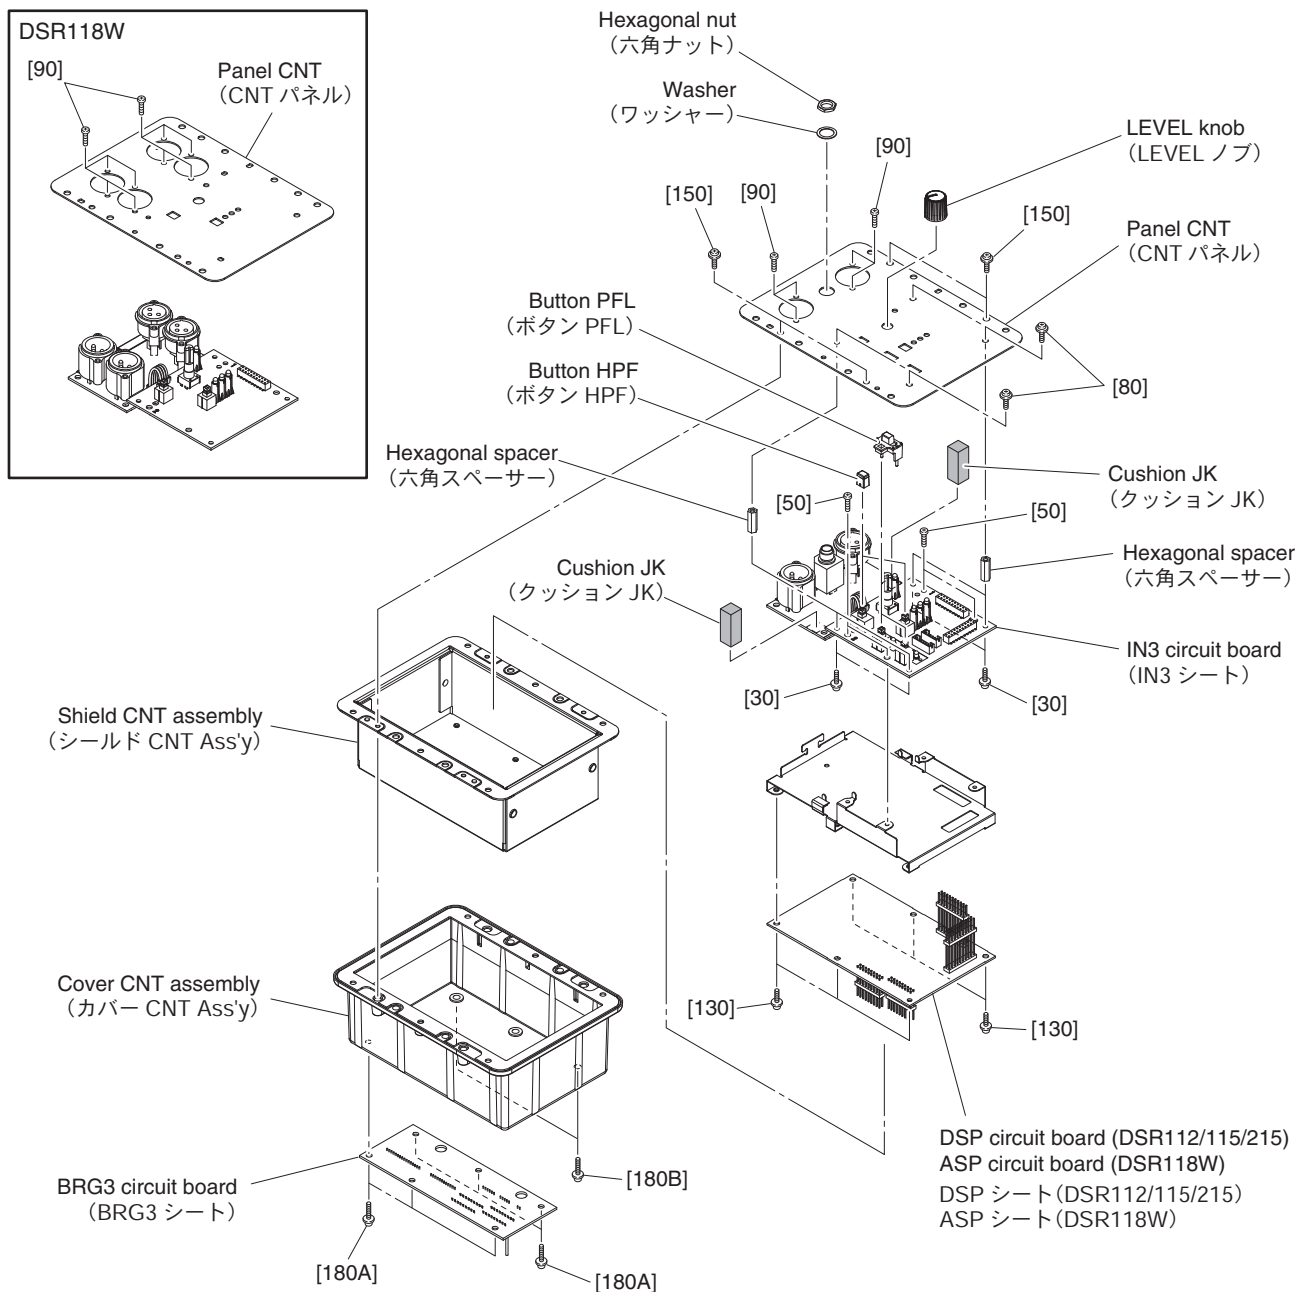

Fig. 2 (図 2)
- 2-2. Remove the four (4) screws marked [150]. The cover CNT assembly can be removed together with the shield CNT assembly. (Fig. 2)
- 2-3. Remove the six (6) screws marked [130]. The DSP (DSR112/115/215) or ASP (DSR118W) circuit board can then be removed. (Fig. 2)
- 3-2. Remove the four (4) screws marked [150]. The cover CNT assembly can be removed together with the shield CNT assembly. (Fig. 2)
Remove the LEVEL knob, the four (4) screws marked [80], the four (4) screws marked [90], the hexagonal nut and the washer. The panel CNT can then be removed. (Fig. 2)
- Remove the LEVEL knob, the four (4) screws marked [80] and the eight (8) screws marked [90]. The panel CNT can then be removed. (Fig. 2)
- 2-2. [150] のネジ 4 本を外して、カバー CNT Ass'y をシールド CNT Ass'y と共に外します。(図 2)
- 2-3. [130] のネジ 6 本を外して、DSP (DSR112/115/215) または ASP (DSR118W) シートを外します。(図 2)
- 3-2. [150] のネジ 4 本を外して、カバー CNT Ass'y をシールド CNT Ass'y と共に外します。(図 2)
LEVEL ノブ、[80] のネジ 4 本、[90] のネジ 4 本、六角ナット、ワッシャーを外して、パネル CNT を外します。(図 2)
- LEVEL ノブ、[80] のネジ 4 本、[90] のネジ 8 本を外して、パネル CNT を外します。(図 2)
3-4. Remove the four (4) screws marked [50]. The IN3 circuit board can then be removed. (Fig. 2)
* The two (2) buttons HPF, the two (2) buttons PFL, the two(2) cushions JK, the four (4) hexagonal spacers and the four (4) screws are not parts of the IN3 circuit board. When replacing the IN3 circuit board, be sure to remove these parts and attach them to the new IN3 circuit board.
3-4. [50] のネジ 4 本を外して、IN3 シートを外します。(図 2)